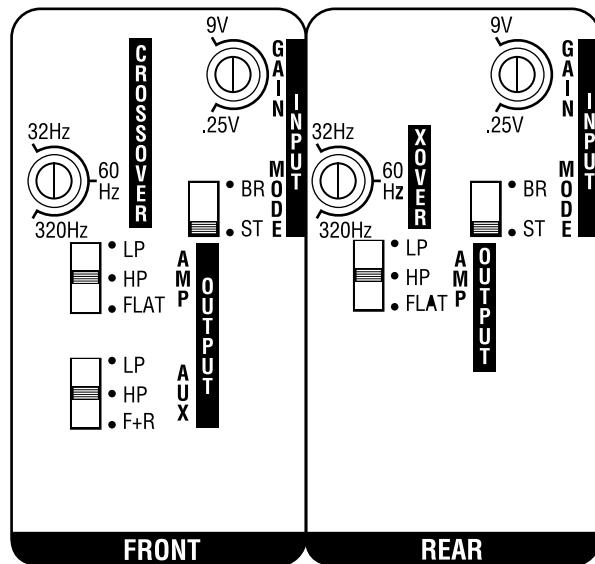

Figure 8. Kappa 54a front and rear controls for crossover, input, and output.
IMPORTANT: If you plan to use the Kappa 54a to drive full-range speakers, set both AMP and AUX filters to FLAT (refer to Figure 1 on page 3 and Figure 8 below) and skip to the next section, "Setting Input Sensitivity".
1. Set the front and rear CROSSOVER controls to the frequency recommended by the speaker manufacturer (refer to Figure 8). If the value is unknown, set the control midway.
2. Depending on your system plan, set the AMP and AUX switches to LP (low-pass), HP (high-pass), or FLAT (refer to Figure 8).
Initially, turn the front and rear input sensitivity GAIN controls to their minimum (counter-clockwise) positions (refer to Figure 8).